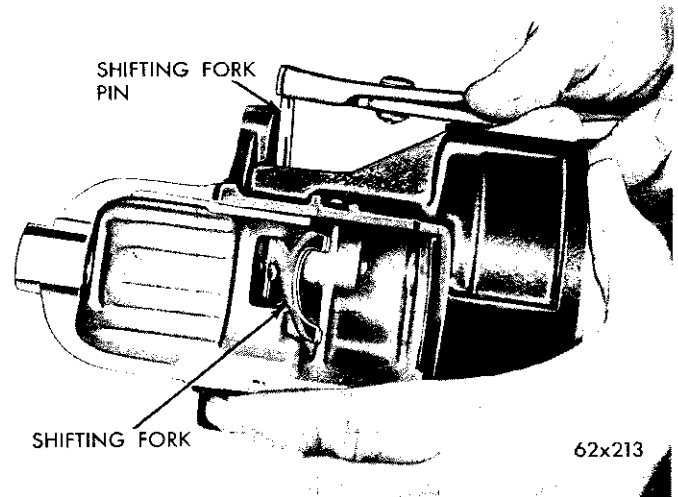

Fig. 13—Removing or Installing the Shifting Fork Pin
- (22) Remove the shifting fork retainer pin (Fig. 13) and remove the clutch shifting fork assembly.